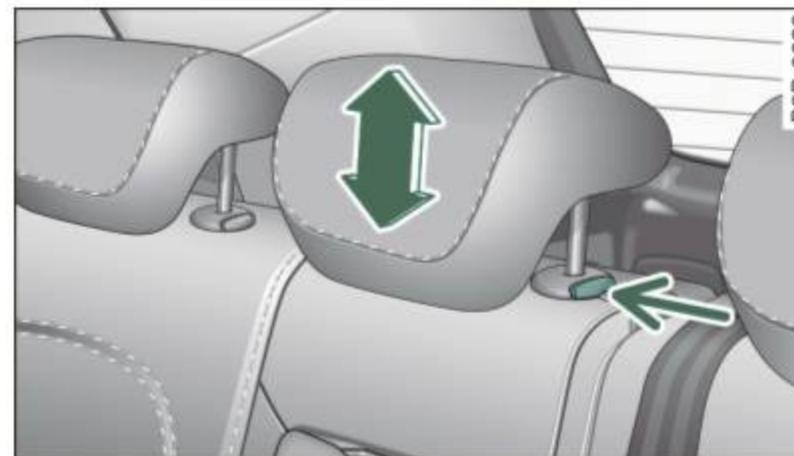

Fig. 75 Rear seats: Head restraint
- Press the button ⇒ fig. 75 -Arrow- and push the head restraint down.